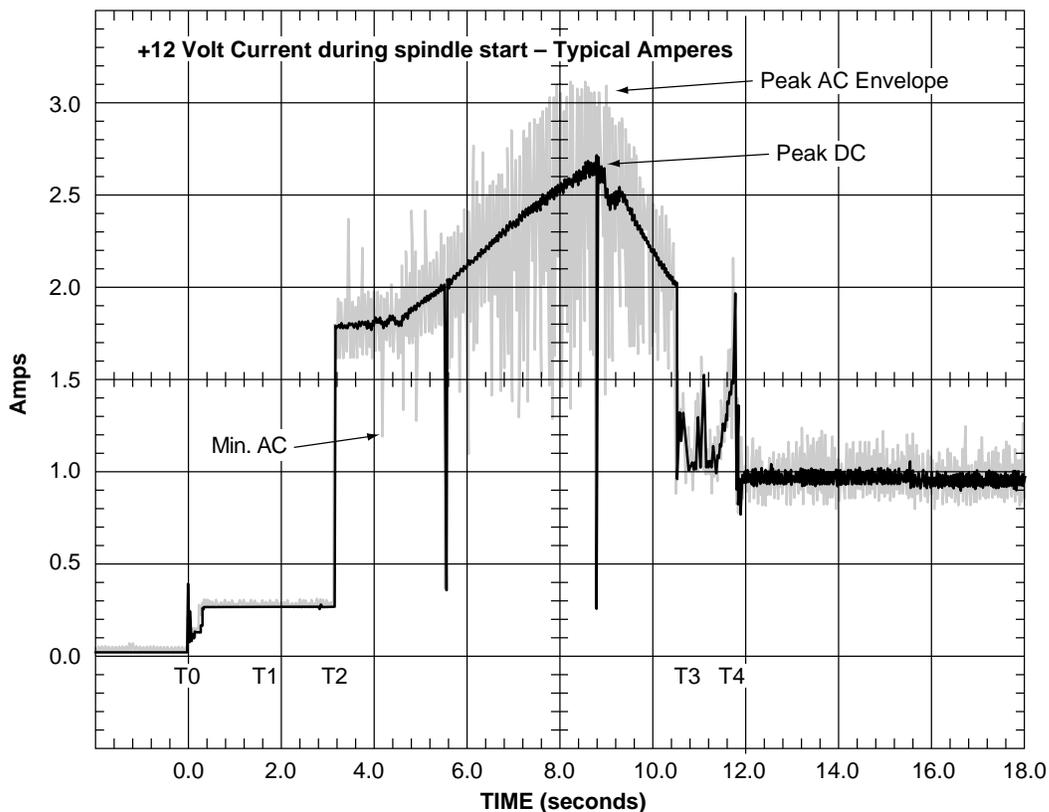
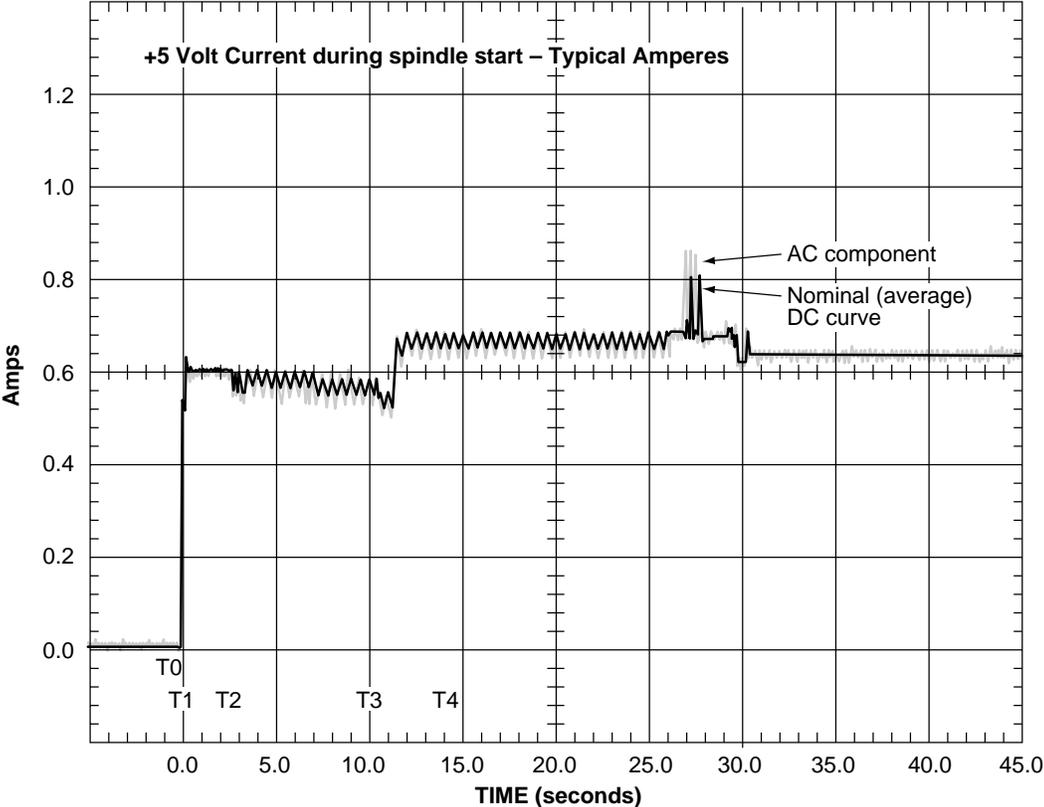

Figure 3. Typical Barracuda 36FC drive +12V current profile
Figure 4. Typical Barracuda 36FC drive +5V current profile
- [3] See +12V current profile in Figure 3.
Figure 3 identifies the drive +12V current profile and Figure 4 identifies the drive +5V current profile. The current during the various times is as shown: